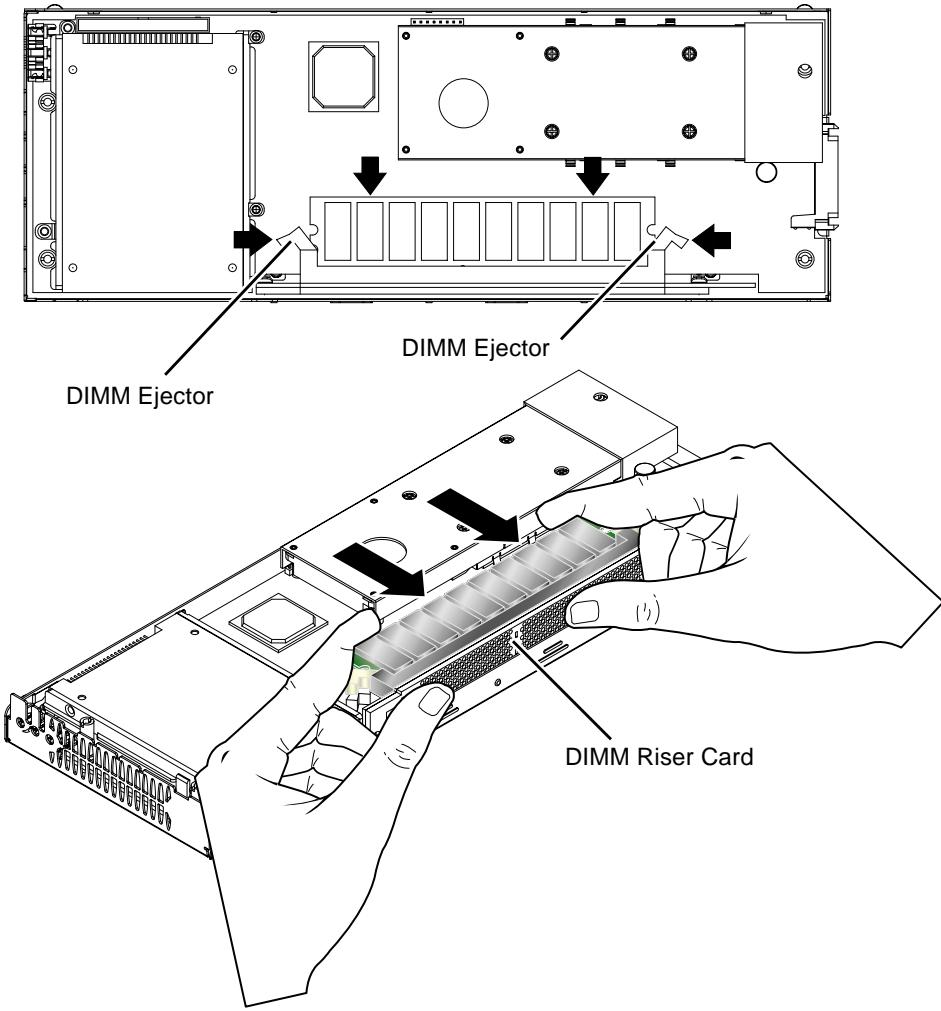

FIGURE 4 Engaging the DIMM Ejectors
3. Press the DIMM until the DIMM ejectors engage on the edges of the DIMM (FIGURE 4).